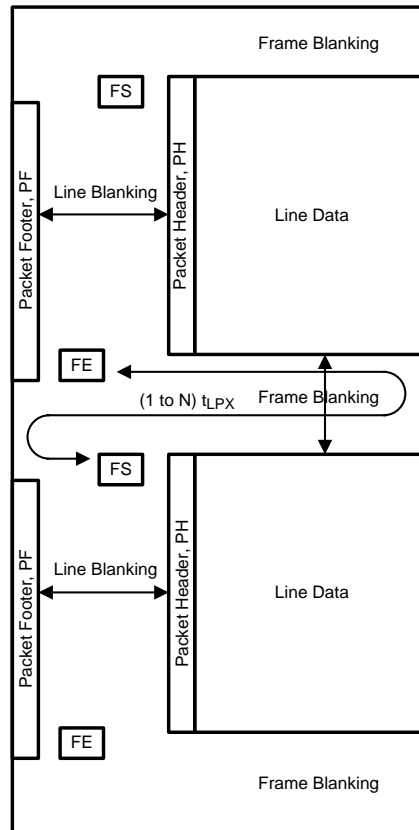

Figure 11. General Frame Format
(1) Default Setting is EQ = Off
The DS90UR910-Q1 (in default mode) takes the RGB data bits R[7:0], G[7:0] and B[7:0] defined in the 24-bit serializer pinout and directly maps to the RGB888 color space in the data frame. The DS90UR910-Q1 follows the General Frame Format as described in Figure 49 of the CSI-2 standard (repeated here in Figure 11). Upon the end of the vertical sync pulse (VS), the DS90UR910-Q1 generates the Frame End and Frame Start synchronization packets within the vertical blanking period. The timing of the Frame Start will not reflect the timing of the VS signal.